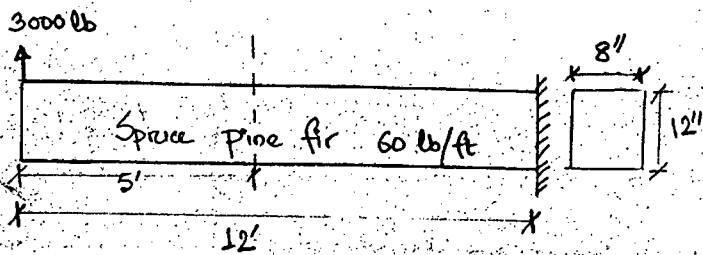

Figure 2
3. A cantilever beam is shown in Figure 2. If it carries an upward concentrated load of 3000 lb at the free end, determine the maximum bending stresses at a section 5 feet from the free end. Assume the weight of the beam is 60 lb/ft. (14)